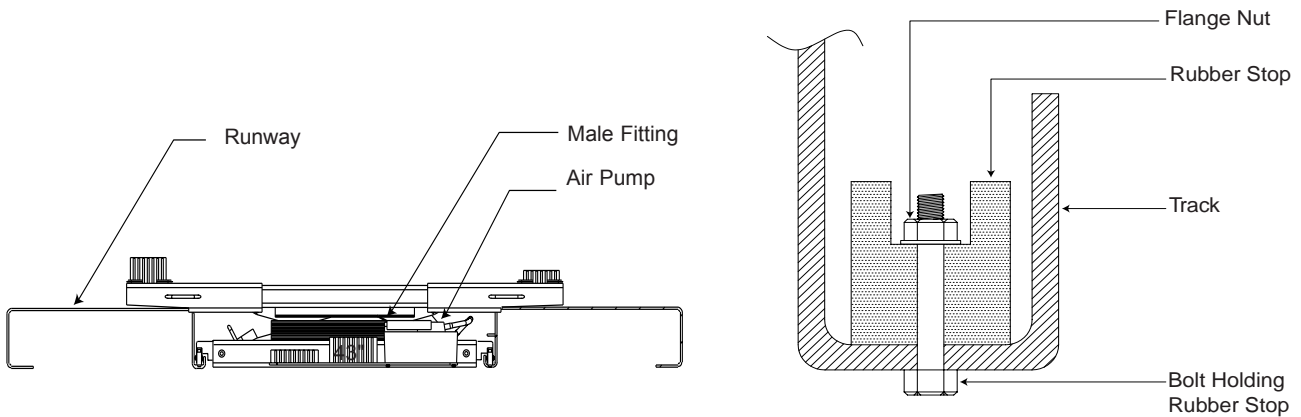

Fig. 29
- B. Place jack on runway track at front and rear with air pump facing ends of runway, Fig. 29.
- D. Attach rubber stop see Fig. 29.